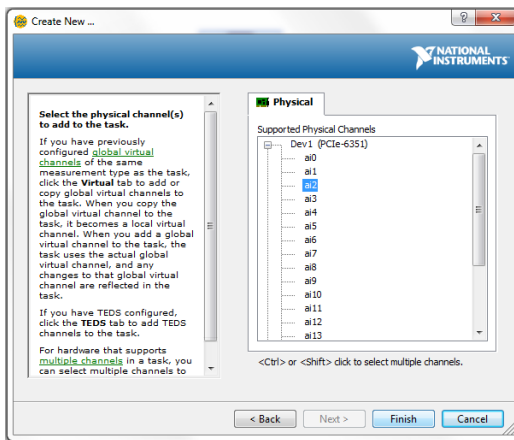

Figure 4 - Selecting an input channel
- b. Check the DAQ Connector box and select the appropriate Card and Channel and press Next. (Figure 4)